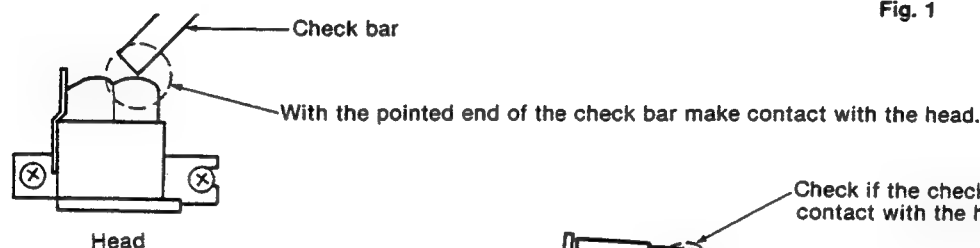

Fig. 2
4. With the check bar, check if it comes in contact with the head. (See Figs. 2 and 3)